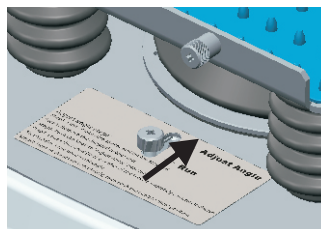

Figure 1
2. Push the knob on the cover plate from "Run" to "Adjust Angle" position as shown in figure 1.